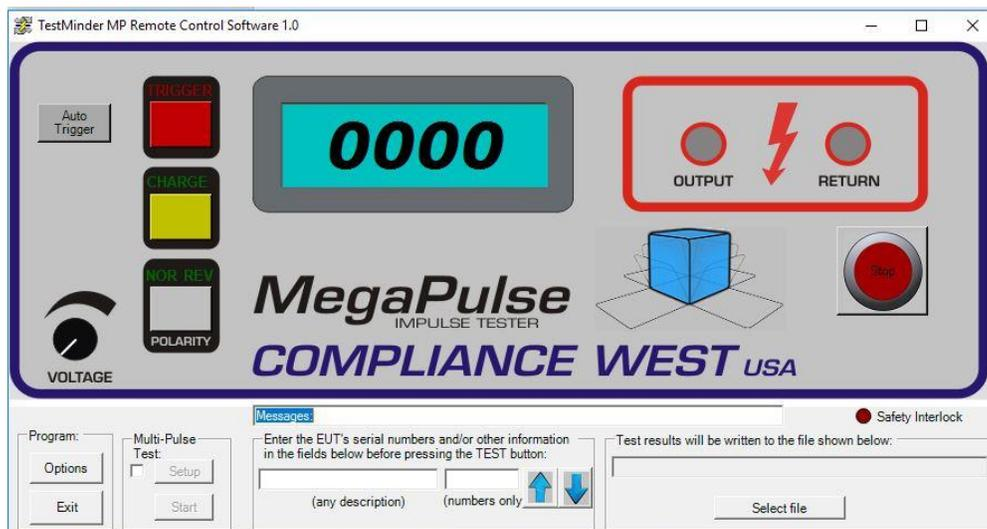

Figure 27 TestMinder Main Screen
3. After the installation is successful the TestMinder main screen will appear (Figure 27), the application is ready for use with your tester.